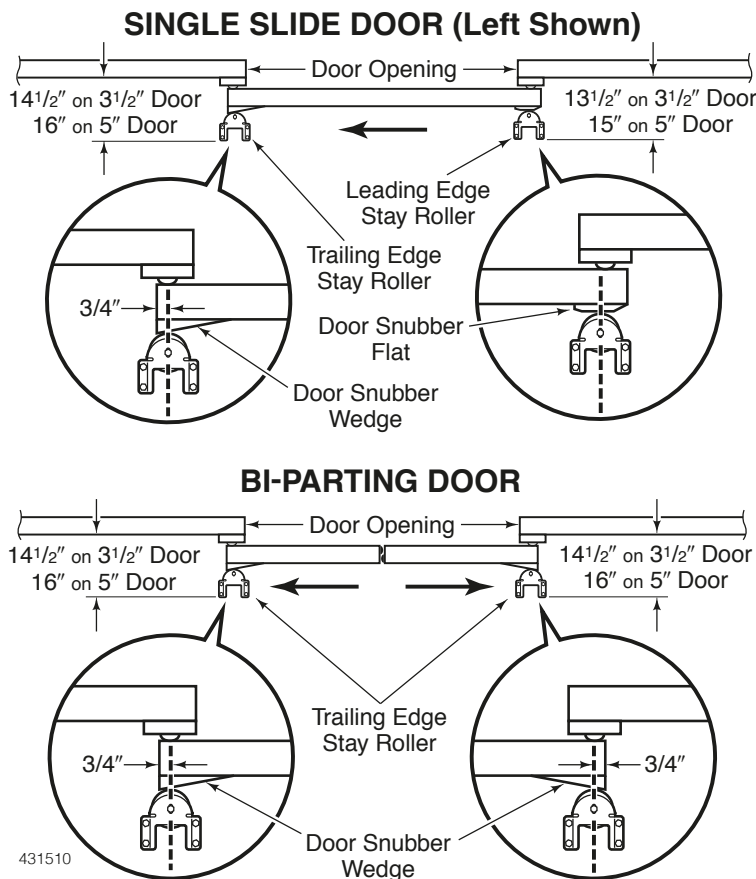

Figure 11
3. Be sure each Stay Roller Lock Nut is centered in the adjustment slot. Note the distance from the wall for *your* door size and type. See Figure 11. With Bi-Parting door(s) fully closed, position the center of the Trailing Edge Stay Roller $\frac{3}{4}$ " in from the end of the Door Snubber Wedge. For Single Slide Doors, center the Leading Edge Stay Roller on the flat spot on the Door Snubber.